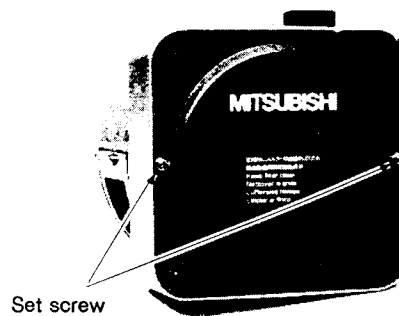

Fig. 39 Set Screw of Cover
- 1) Remove set screws of cover to open it. (See Fig. 39)